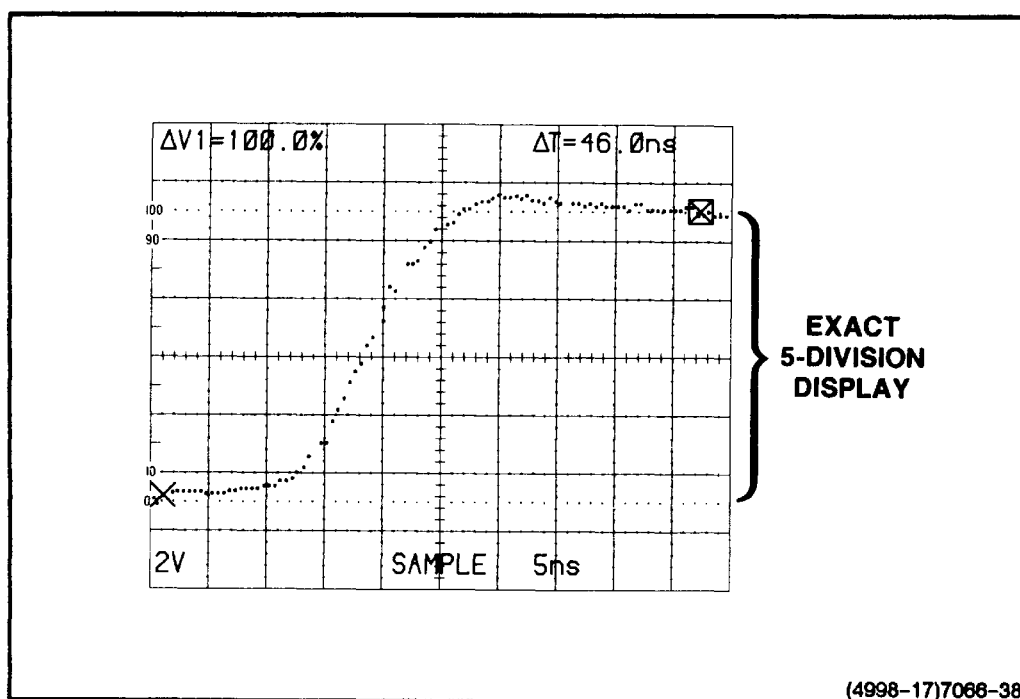

Figure 6-13. Rise-time setup, five-division display.
4. Set the SEC/DIV switch for a single-event display, with the rise time spread horizontally as much as possible within the viewing area. The waveform's maximum and minimum levels must still be visible (see Figure 6-13).